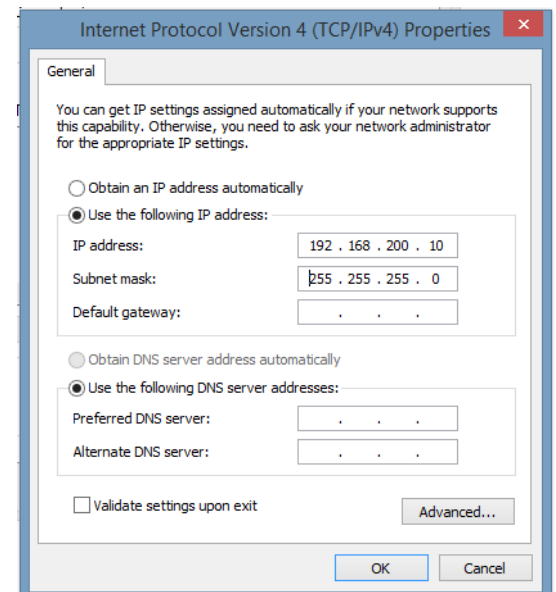

Fig. 2-41, Internet Protocol (TCP/IP) Properties Screen, Windows 10
7. The Internet Protocol (TCP/IP) Properties dialog box will open (**Fig. 2-41**). Select "Use the following IP address": Enter the values as shown (i.e. IP address 192.168.100.2 and subnet mask 255.255.255.0). Record the existing IP address and subnet mask in order to later return the computer to its original state.